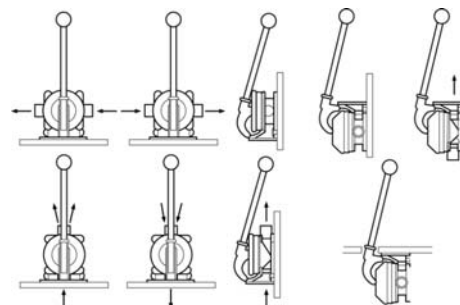

Fig. 4 Mounting arrangements for a standard model
| Fig. 4 | Mounting arrangements for a standard model |
- With all applications, it is important that a system of safe working practice is applied to installation, use and maintenance. Ensure the waste water system is drained before installation. In order to securely fasten the unit, ensure that the mounting surface is a minimum thickness of 18mm (45/64") as shown in Fig. 4
The Gusher® 10 is designed for mounting on deck / bulkhead (BP3708), or through deck / bulkhead (BP3740). The handle can be fixed on four different positions relative to the inlet and outlet (see Fig. 4).